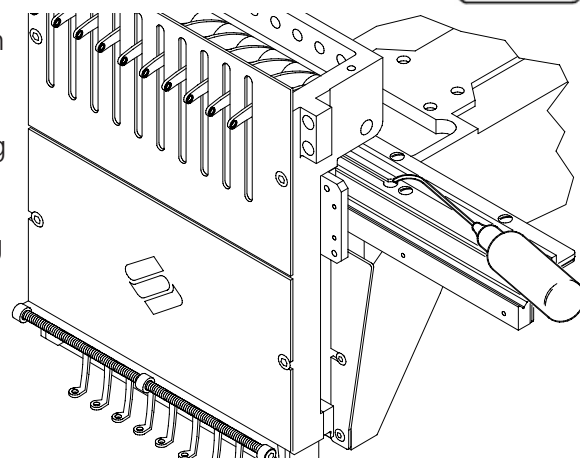

**Figure 5-7**
2. From behind the needle case, place one or two drops of sewing machine oil onto needle bars one through six in the location shown in Figure 5-7. Repeat for each head.